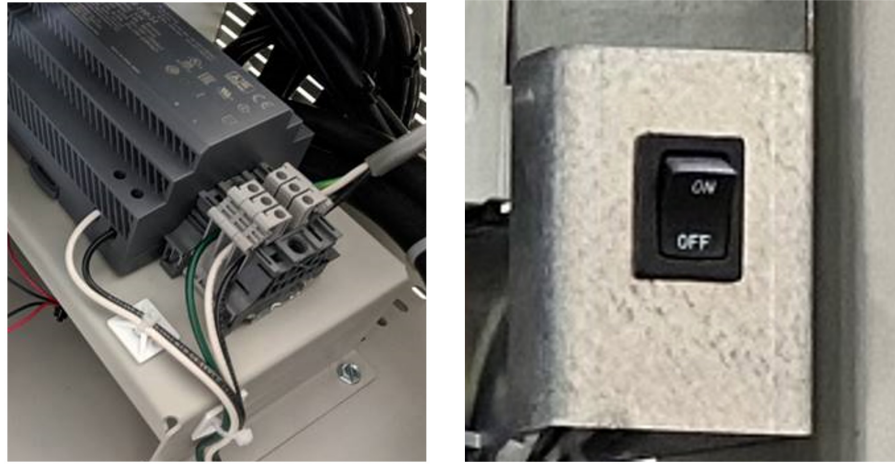

Figure 8. AC Input wiring (on right side at back of cabinet) and ON/OFF Switch
3. AC: Connect the Ground, Neutral and Line to the terminal block for incoming AC. Refer to figures 8 and 9.